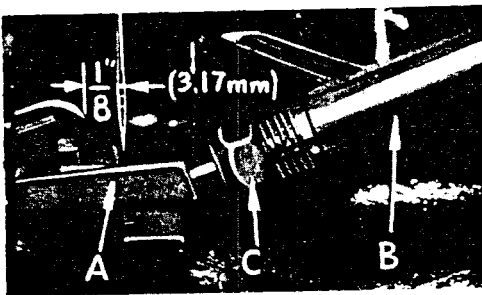

Fig. 5
On all of the Varieties covered in this catalog except 695B054, insert lower looper (A, Fig. 5) into bar (B). With lower looper at left end of its stroke, set looper point $\frac{1}{8}$ inch (3.17 mm) from center of needle (Fig. 5), using looper gauge No. 21225- $\frac{1}{8}$. Do not have lower looper deflecting needle. Tighten nut (C).
On machine [redacted] insert lower looper (A, Fig. 5) into bar (B). With lower looper at left end of its stroke, set looper point $\frac{3}{32}$ inch (2.38 mm) from center of needle (Fig. 5), using looper gauge No. 21225- $\frac{3}{32}$. Do not have lower looper deflecting needle. Tighten nut (C).